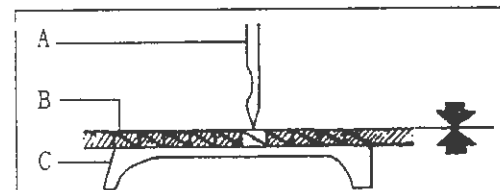

Fig.21
30. Timing between needle and feed dog motion(Fig.21,22)
When needle point A reaches needle plate top surface B, feed dog surface C should be keep accordant on height (Fig.21) with needle plate top surface. It is the standard synchronous relationship. Adjustive method as below: